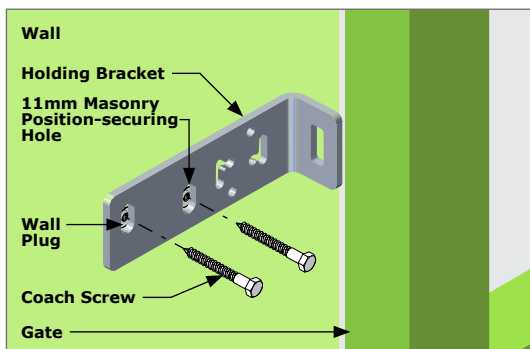

FIGURE 11. WALL - FASTENERS
- Using two M8 Coach Screws and Wall Plugs to mount the **Holding Bracket** onto a wall. Two 11mm Masonry Position-securing Holes have been provided. See Figure 11.